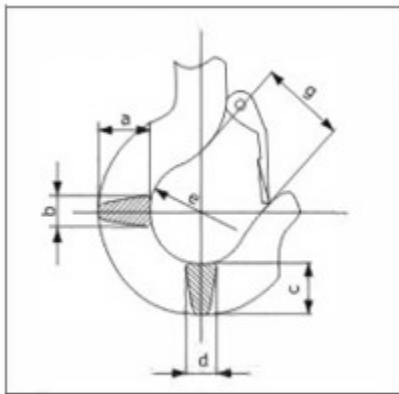

Fig.6.2
c. Inspect hoist hook assembly checking for any cracks or distortion of the hook body and/or excessive wear. If the measured dimensions are 5% or more out of specification the hook assembly needs replaced. See figure 6.2 and table 6.2 for specifications.